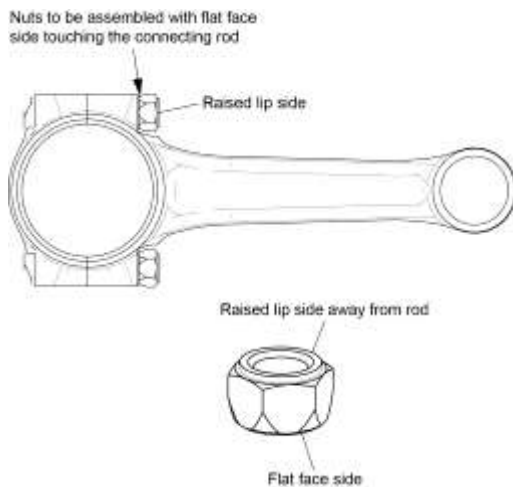

Figure 33
- H. Install a new nut on each new connecting rod bolt where the flat face of the nut touches the connecting rod as shown in Figure 33.